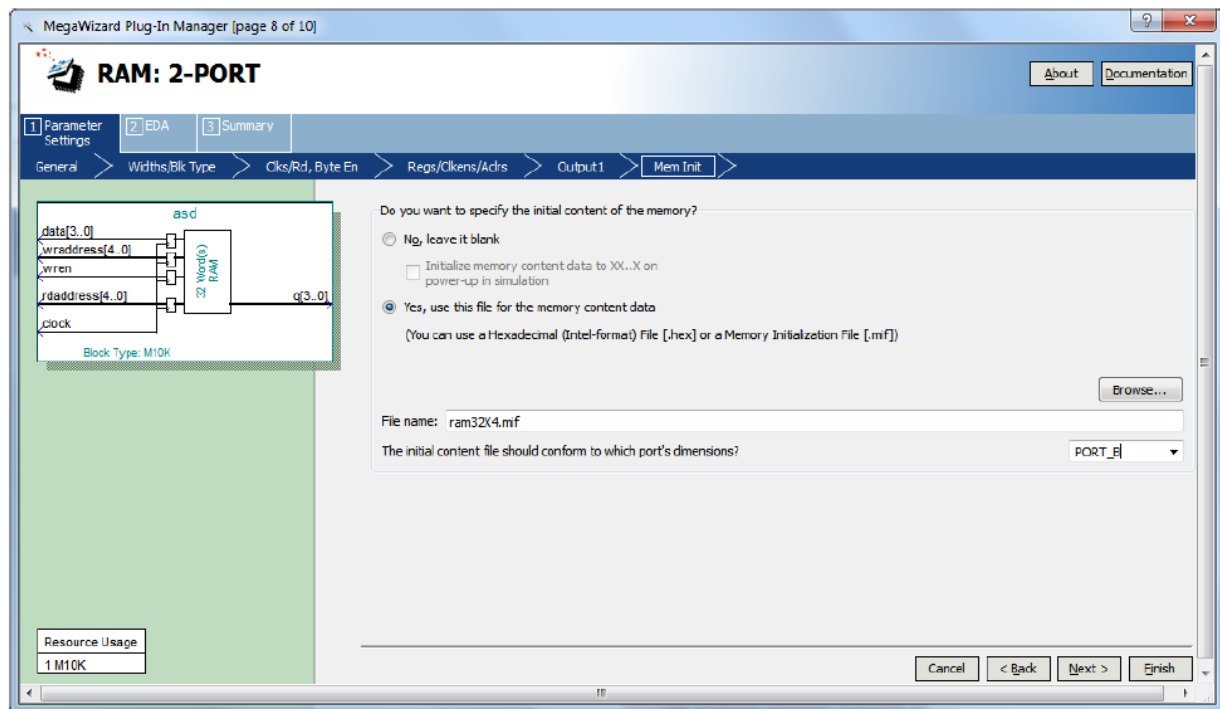

Figure 7: Specifying a memory initialization file (MIF).
Figure 7 shows how the memory words can be initialized to specific values. It makes use of a feature that allows the memory module to be loaded with data when the circuit is programmed into the FPGA chip. As shown in the figure, choose the setting Yes, use this file for the memory content data, and specify the filename ram32x4.mif. An example of a MIF file is provided below Figure 7. You can also learn about the format of a memory initialization file (MIF) by using the Quartus Help. Finish the Wizard and then examine the generated memory module in the file ram32x4.vhd. (Mif file is provided ram32x4.mif).
3. Use the 50 MHz clock, CLOCK_50 for the clocks, and use KEY0 as a reset input. For the write address and corresponding data use switches SW8-4 and SW3-0. Show the write address on HEX5-4 (use the upper address bit for Hex5, and the lower 4 address bits for Hex4) and show the write data on HEX1. Make sure that you properly synchronize the slide switch inputs to the 50 MHz clock, see the cascaded registers below figure 7 for the proper synchronization structure – remember metastability hardening?